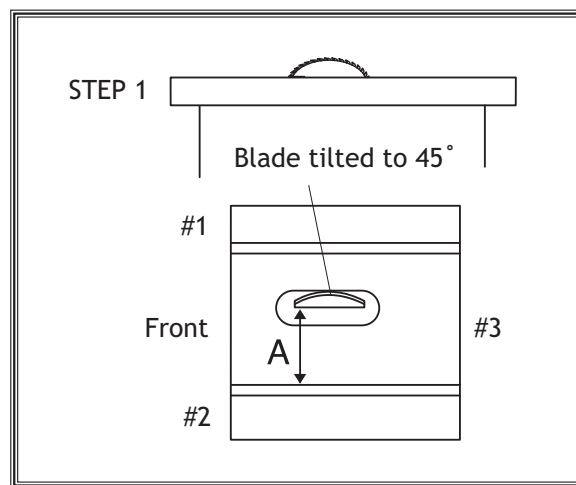

Figure 72. Shim procedure diagram A.
10. Refer to **Figures 72 and 73** for shim placement. If the distance of A is shorter than B, shim(s) will need to be placed under corners #1 and #2. If the distance of B is shorter than A, shim(s) will need to be placed under corner #3. Very thin shim stock works well.